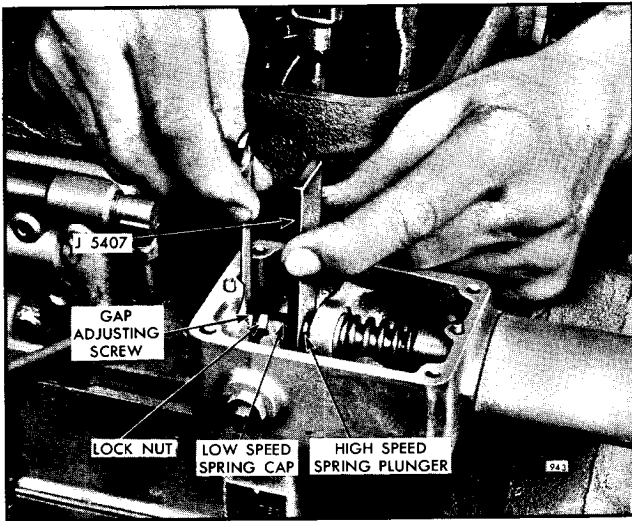

Fig. 2 - Adjusting Governor Gap
2. Start the engine. Then, loosen the idle speed adjusting screw lock nut (see Fig. 2). Turn the idle speed adjusting screw to attain a speed of 840-850 rpm (at no-load). Then, tighten the lock nut.